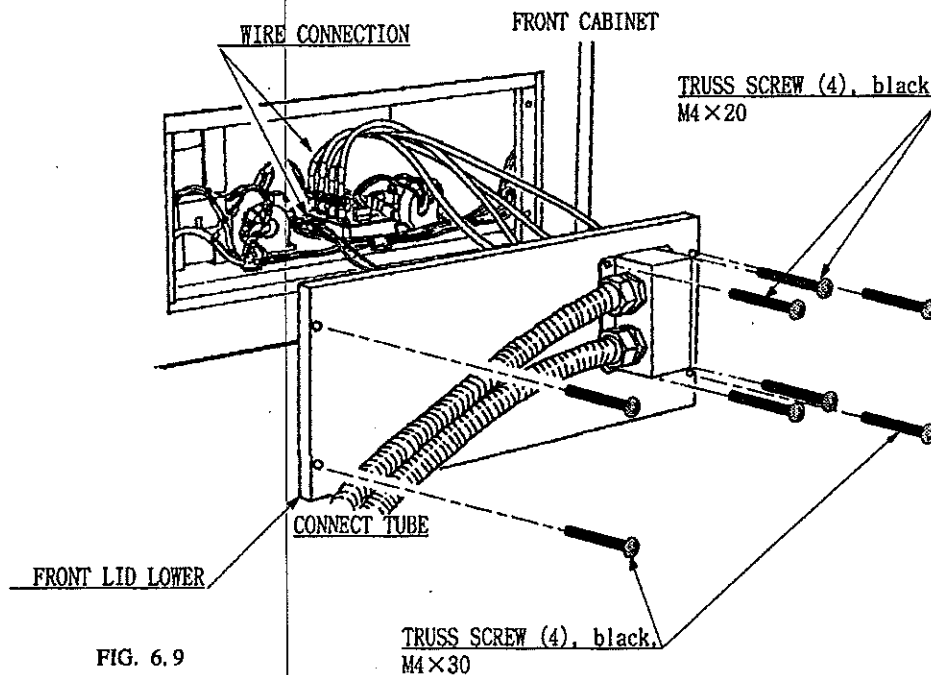

FIG. 6.9
- ④ Put the connect tube wires into the square hole of the front cabi's front lid lower and secure the joint box with 4 truss screws. When fastening the screws, be careful that the wires are not damaged. (FIG. 6.9)